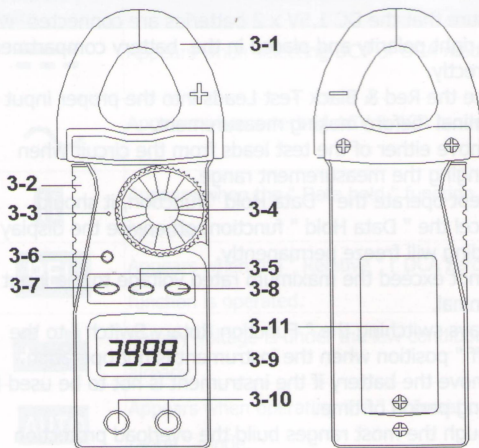

Fig. 1
- 3) If measure " DCV ", select the " Function rotary switch " (3-4, Fig. 1) to the " V " position then push the " FUNC. button " (3-7, Fig. 1) for display show "  ".
- 4) If measure " ACV ", select the " Function rotary switch " (3-4, Fig. 1) to the " V " position then push the " FUNC. button " (3-7, Fig. 1) for display show "  ".
- 6) Under the operation of " auto range " mode, push the " Range button " (3-5 Fig. 1) will hold the range.
- 3) Select the " Function rotary switch " (3-4, Fig. 1) to the " Ω " position then push the " FUNC. button " (3-7, Fig. 1) for display show " Ω ".
- 5) Under the operation of " auto range " mode, push the " Range button " (3-5 Fig. 1) will hold the range.
- 3) Select the " Function rotary switch " (3-4, Fig. 1) to the
- "  " position then push the " FUNC. button " (3-7, Fig. 1) for display show "  ".
- 3) Select the " Function rotary switch " (3-4, Fig. 1) to the "  " position then push the " FUNC. button " (3-7, Fig. 1) for display show "  ".
- 1) Select the " Function rotary switch " (3-4, Fig. 1) to the " 600A " position then push the " FUNC. button " (3-7, Fig. 1) for display show "  ".
- 2) Press the " Trigger " (3-2, fig. 1) to open the " Current Sensor Jaws " (3-1, Fig. 1) & clamp on the measure conductor only.
- 4) Under the operation of " auto range " mode, push the " Range button " (3-5 Fig. 1) will hold the range.
- 4) Under the operation of " auto range " mode, push the " Range button " (3-5, Fig. 1) will hold the range.
*** Push the " REL. button " (3-8, Fig. 1), the " AUTO " indicator will disappear instead of the " REL. " mark. In the same time, display will change to zero value.**
*** After push the " REL. button ", the meter will under the manual mode (not auto range). If intend change the DCA range (400A to 600A, or 600A to 400A), then should push the " Range button " (3-5, Fig. 1).**
3) Select the " Function rotary switch " (3-4, Fig. 1) to the " Hz " position, LCD will show the mark of " Hz " .
- 1) During the measurement of ACV, ACA, DCV, DCA & ohm, the circuit will memorize the last measured values if push the " REL. button " (3-8, Fig. 1) at once, then LCD will show zero value & a " REL. " indicator.
- 1) During the measurement, pushing the " Hold button " (3-6, Fig. 1) once a while will freeze the measured value & the LCD will indicate " HOLD " symbol.